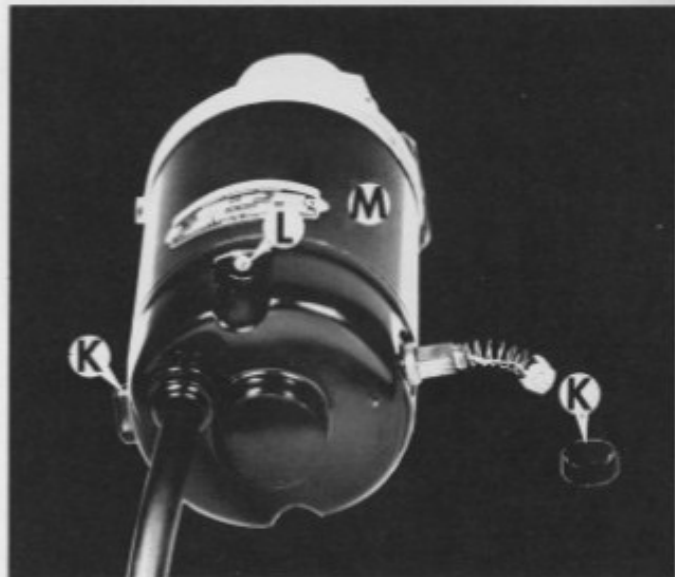

Figure 50 — Power Feed Motor and Brushes
9. Remove motor brushes under caps "K", Figure 50.